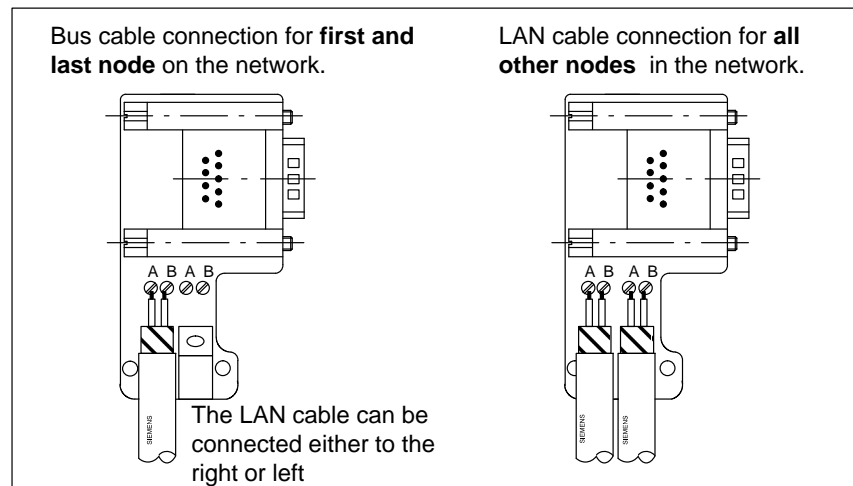

Figure 3-13 Connecting the LAN Cable to the Bus Connector
5. Fit the green and red wires into the screw terminal block as shown in Figure 3-13.